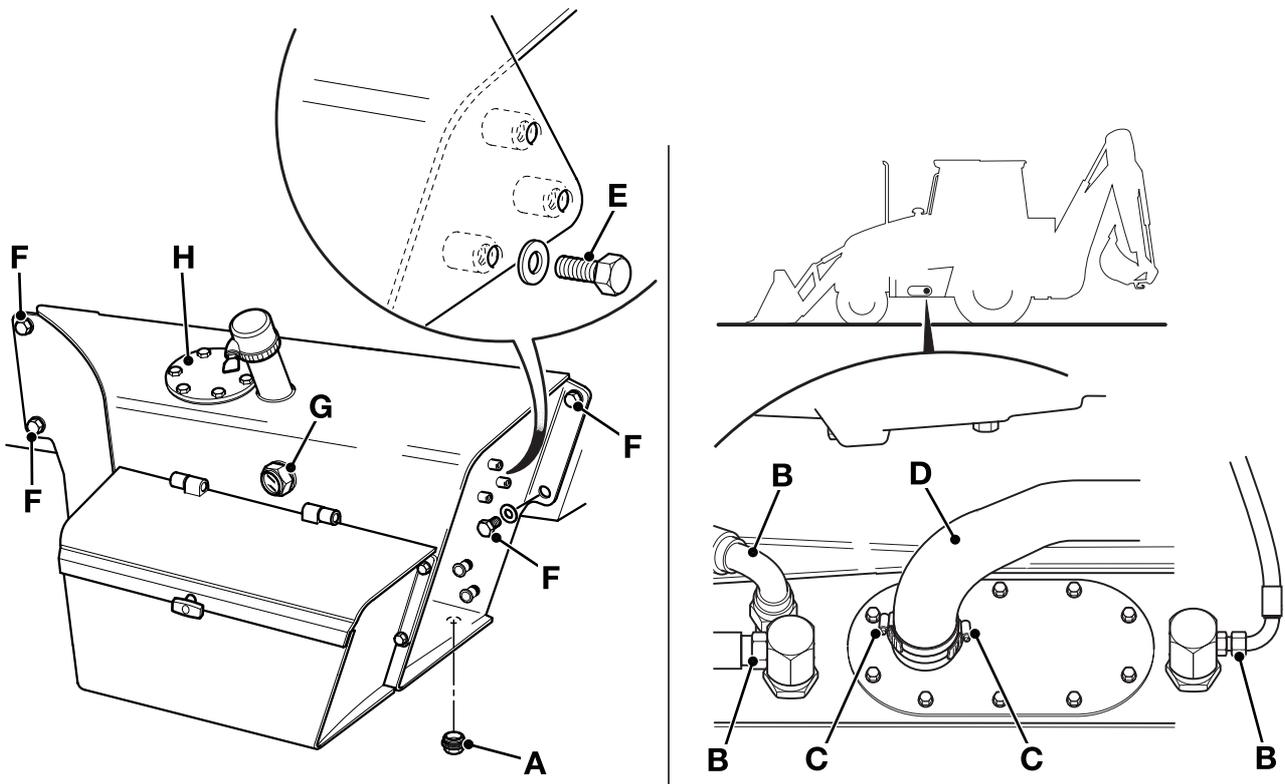

Fig 10. Hydraulic Tank
- 2 → Fig 10. \(□ B-88\). Working underneath the LH side of the machine, carefully remove the drain plug **A** and drain the hydraulic tank contents into a suitable clean container.